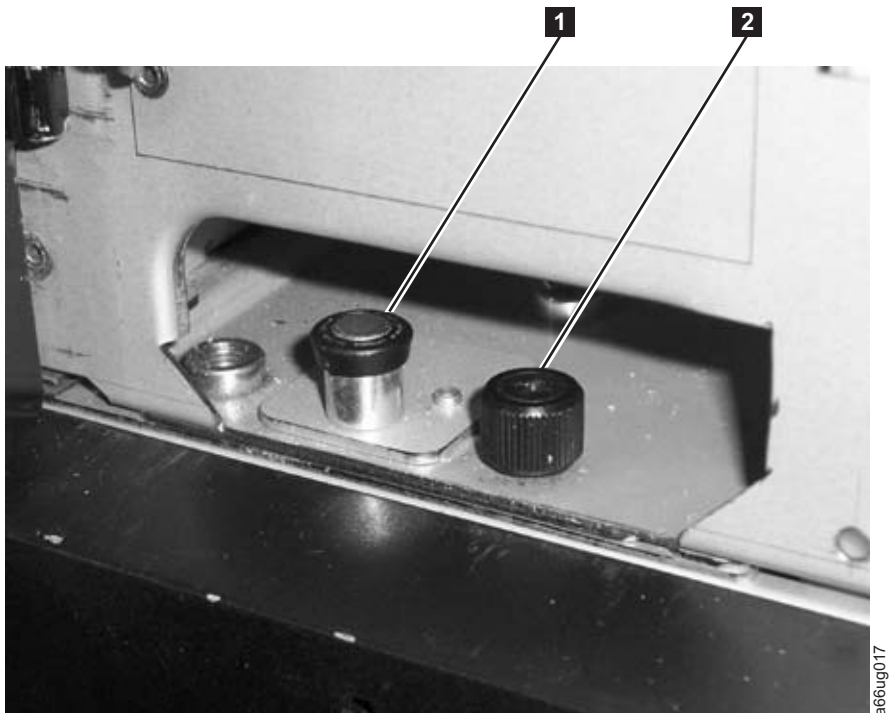
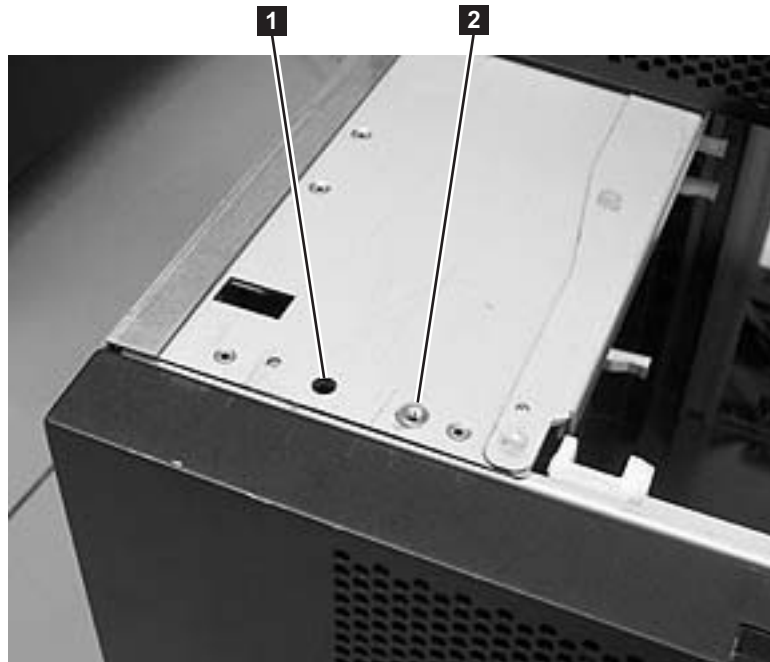

Figure 8-4. Alignment pin and front thumb screw
Figure 8-6. Alignment pin and front thumb screw receptacles
9. Open the I/O Station door then the Access Door of the control module to expose the control module alignment pin (**1** in Figure 8-4 on page 8-8) and front thumb screws (**2** in Figure 8-4 on page 8-8) behind the Access Door and behind the I/O Station door.
2. Ensure that the module-to-module alignment pin (**1** in Figure 8-4 on page 8-8) is in the raised position. If necessary, raise the pin and rotate it half a turn to lock it in the raised position.
6. Twist the control module alignment pin (**1** in Figure 8-4 on page 8-8) to unlock it from the up position.
7. Adjust the control module's position on top of the expansion module until the control module alignment pin drops into the alignment pin receptacle (**1** in Figure 8-6) in the lower expansion module.
8. Tighten the front thumb screw (**2** in Figure 8-4 on page 8-8) to secure the front of the control module to the lower expansion module (**2** in Figure 8-6).